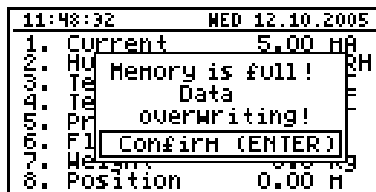

Fig. 7.16. Warning in "cyclic" recording mode
- "cyclic"** - after filling all the available memory with recorded measurement results, the measurement results recorded next will be written from the starting address in the memory, overwriting previously recorded data. During the first overwriting operation a warning message (Fig. 7.16) will be displayed; this message must be confirmed with the [ENTER] key. This warning shall be repeated when the unit is switched on. Instead of "Time left" parameter in the "Device information" menu the display will show the "Data overwriting" message.